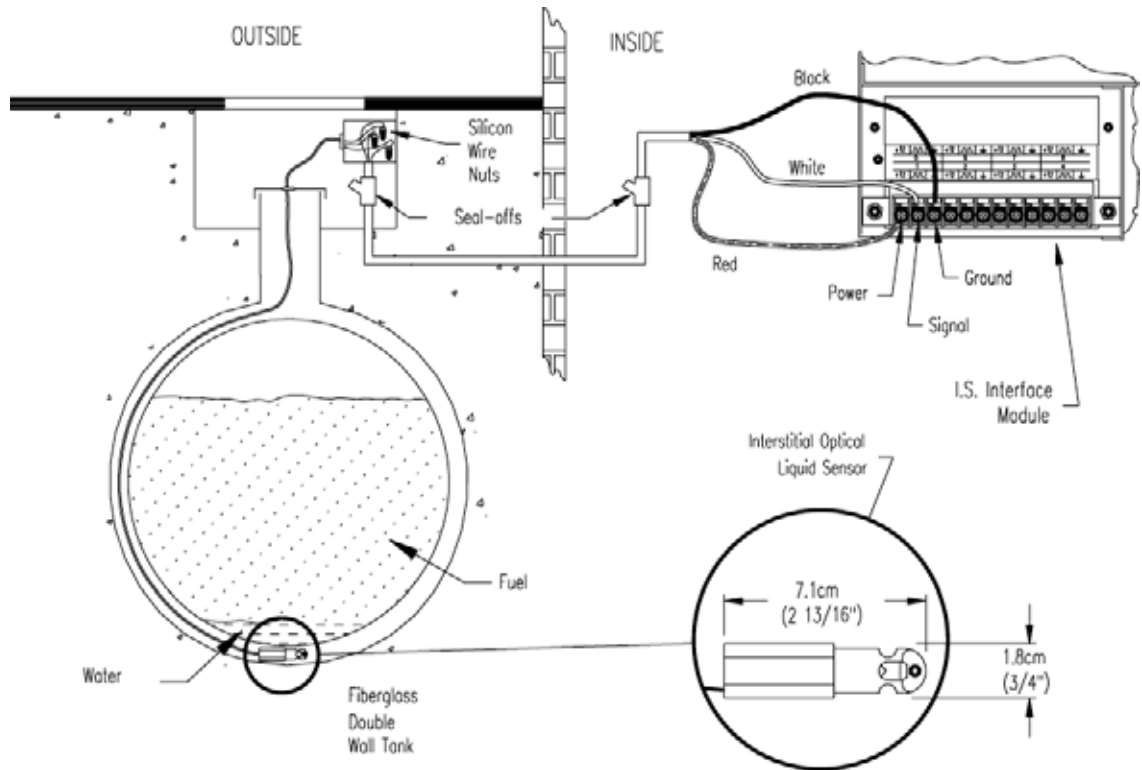

Figure 25: Interstitial Optical Liquid Sensor Installation
- Review Figure 25 on page 74.